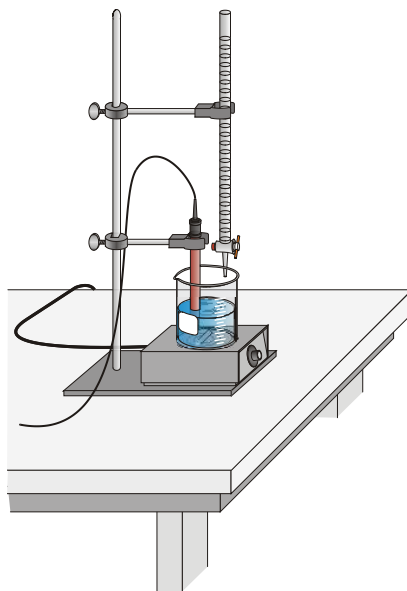

Figure 1
5. Set up a ring stand, a buret clamp, and a buret to conduct the titration (see Figure 1). Rinse and fill the 50 mL buret with the standardized KMnO_4^- solution. Record its exact concentration in Data Table 2.